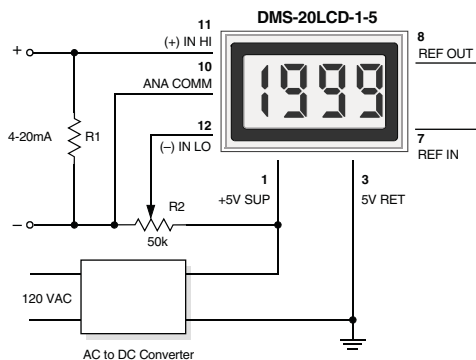

Figure 7. 4-to-20mA Current Loop Operation (5V-Powered Models)
- 5. Process Control (4-to-20mA) Measurements:** In many common process-control applications, a 4-to-20mA current loop is used to transmit information. Because DMS-20LCD meters have such high input impedance, a simple shunt resistor across the meter's input can be used to convert the loop current to a voltage. See Figure 7. The value of the shunt resistor is a function of the scaling requirements of the particular application and can be calculated using the following equation:
To calibrate the circuit of Figure 7, perform the following: